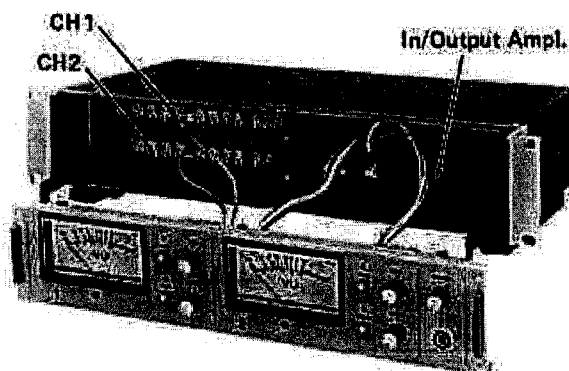

Fig. 9-7-8. Opening the Amplifier Module Front Panel
- \* To get at the trim pots for record/reproduce amplifier circuit adjustments, open the meter panel by removing the four set screws, two on each side of the panel. (Refer to Fig. 9-7-8.) With the panel removed, you will see the amplifier boards to which the trim pots are mounted as shown in Fig. 9-7-8. The boards are identical and are exclusively used for their respective channels.